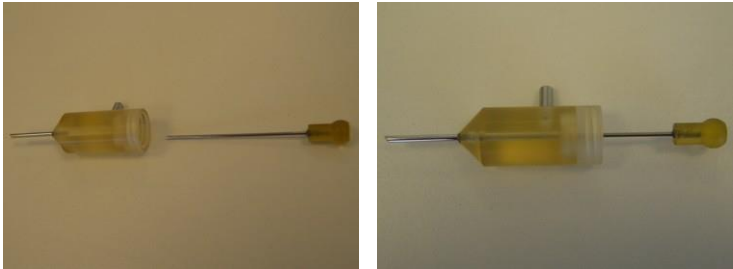

Figure 3-78. Inserting the Handpiece Piston into the Implanter Head
1. Insert the Piston into the implanter head, as shown in Figure 3-78.